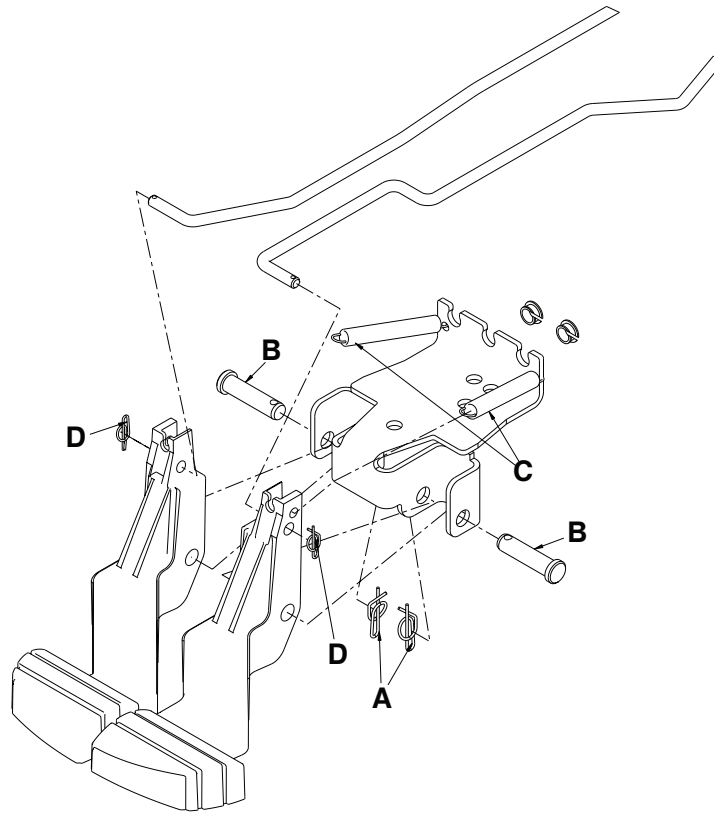

Figure 11 – Replace the release pedal
3. Disconnect the release pedal return springs (C) from the foot end release pedals (Figure 11).